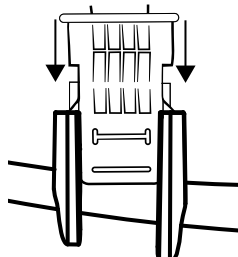

Figure 8
3. Insert keys into respective key slots. Push firmly until keys snap into place (Figure 8).